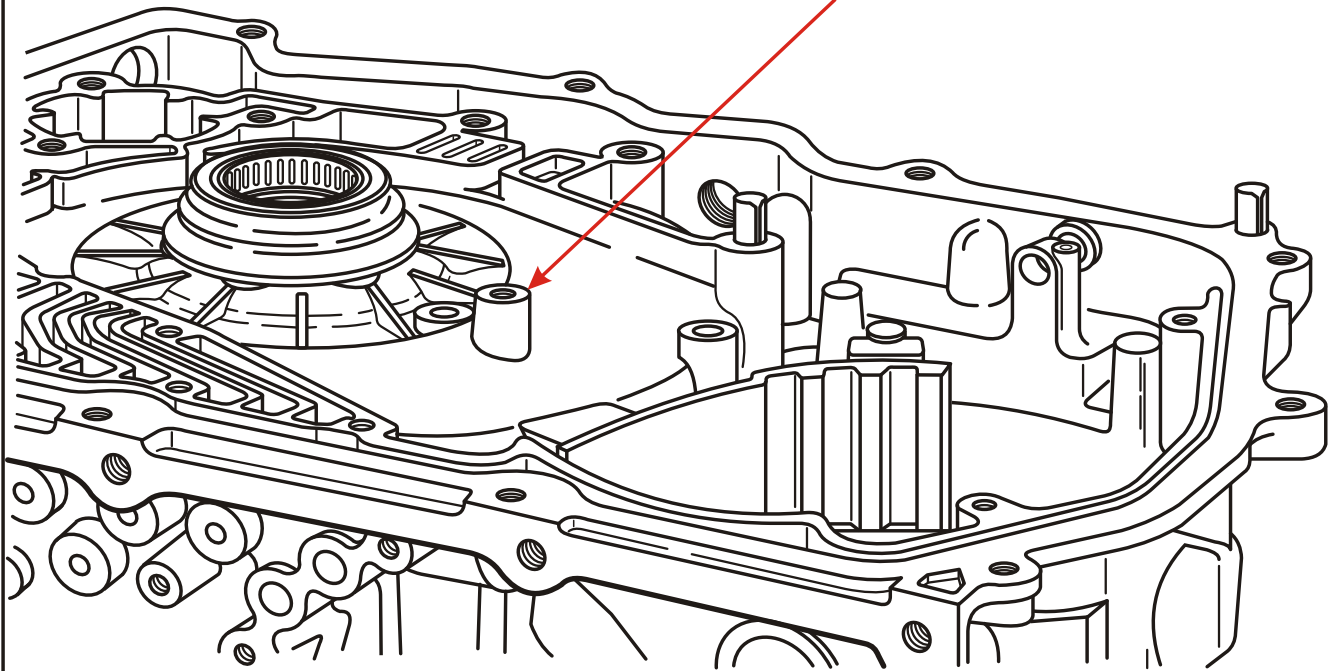
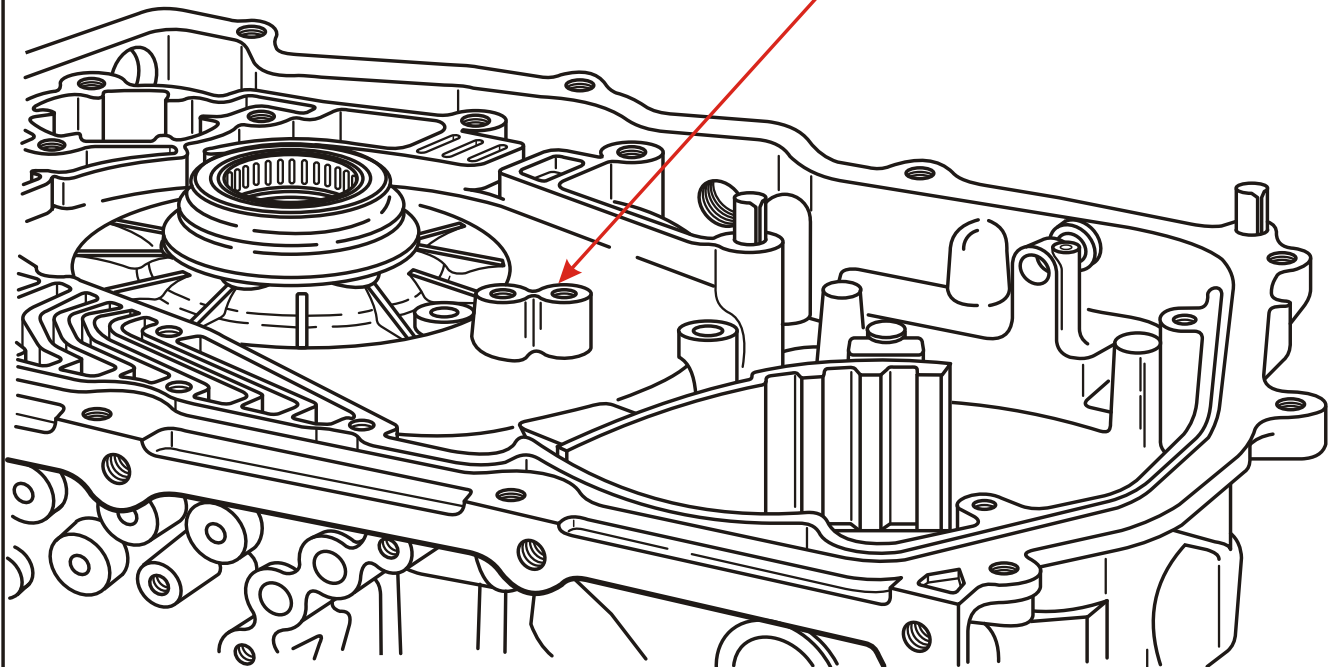

Figure 1
Figure 2
- (1) **TRANSAXLE CASE** - Added boss and the second threaded hole to the case in the area shown in Figure 2, to accommodate valve body bolt and channel plate changes for improved clamping. The previous design case, with the single boss and hole is shown in Figure 1.